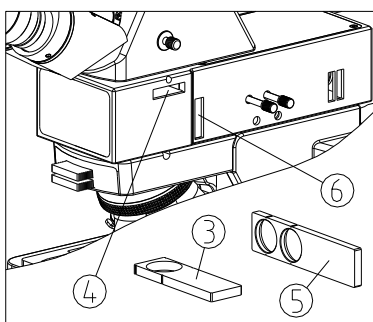

Fig.38
(2) Insert the analyzer (3) fully into the analyzer slot (4) of the reflected illuminator forward. (See Fig.38)
(3) The polarizer and the analyzer are orthogonal when the 360° rotating analyzer is zero adjusted (or the fixing analyzer is used).
(4) Dialing the rotatable analyzer drive plate can change the orthogonal state of the polarized light.
(1) Insert the polarizer (5) into the polarizer slot (6) of the reflected illuminator forward. (See Fig.38)
- (2) Insert the analyzer③ fully into the analyzer slot④ of the reflected illuminator. (See Fig.38)
- (3) The polarizer and the analyzer are orthogonal when the 360° rotating analyzer is zero adjusted (or the fixing analyzer is used).
- (4) Dialing the rotatable analyzer drive plate can change the orthogonal state of the polarized light.